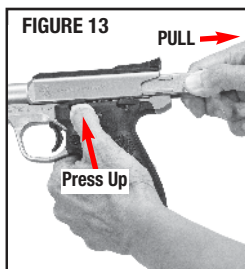

FIGURE 13
- Grasp the serrated sides of the bolt from the rear and briskly pull the bolt fully rearward to eject the misfired round. Do not obstruct the ejection port, and do not attempt to catch the round by placing your hand over the ejection port (FIGURE 13).